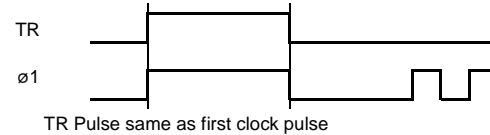

Figure 32: TR-Ø1Guardband Can Be Equal To 0
- The TR-Ø1 guardband may be equal to 0, causing TR and Ø1 to go high simultaneously and low simultaneously (Figure 32). This is a requirement of some Canon CIS sensors.